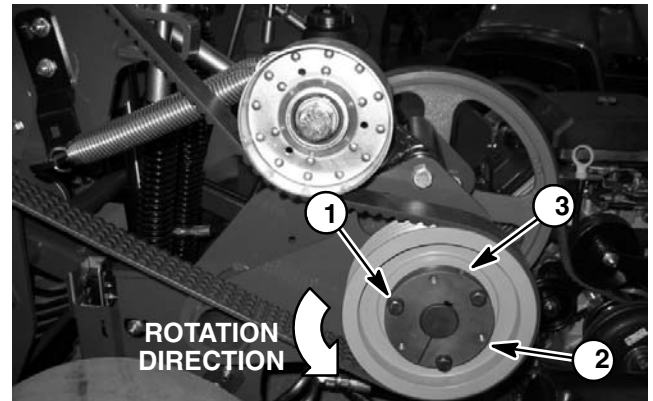

Figure 18
5. Loosen taper lock bushings (Fig. 18):
A. Remove three (3) cap screws and lockwashers that secure taper lock bushing to pulley.
6. Loosen set screws (item 5) that secure taper lock bushings to jackshaft. Remove bushings and pulleys from the jackshaft. Locate and retrieve woodruff keys (item 6) that locate bushings on jackshaft.
**NOTE:** Jackshaft rotates counterclockwise as viewed from right side of machine (Fig. 18).